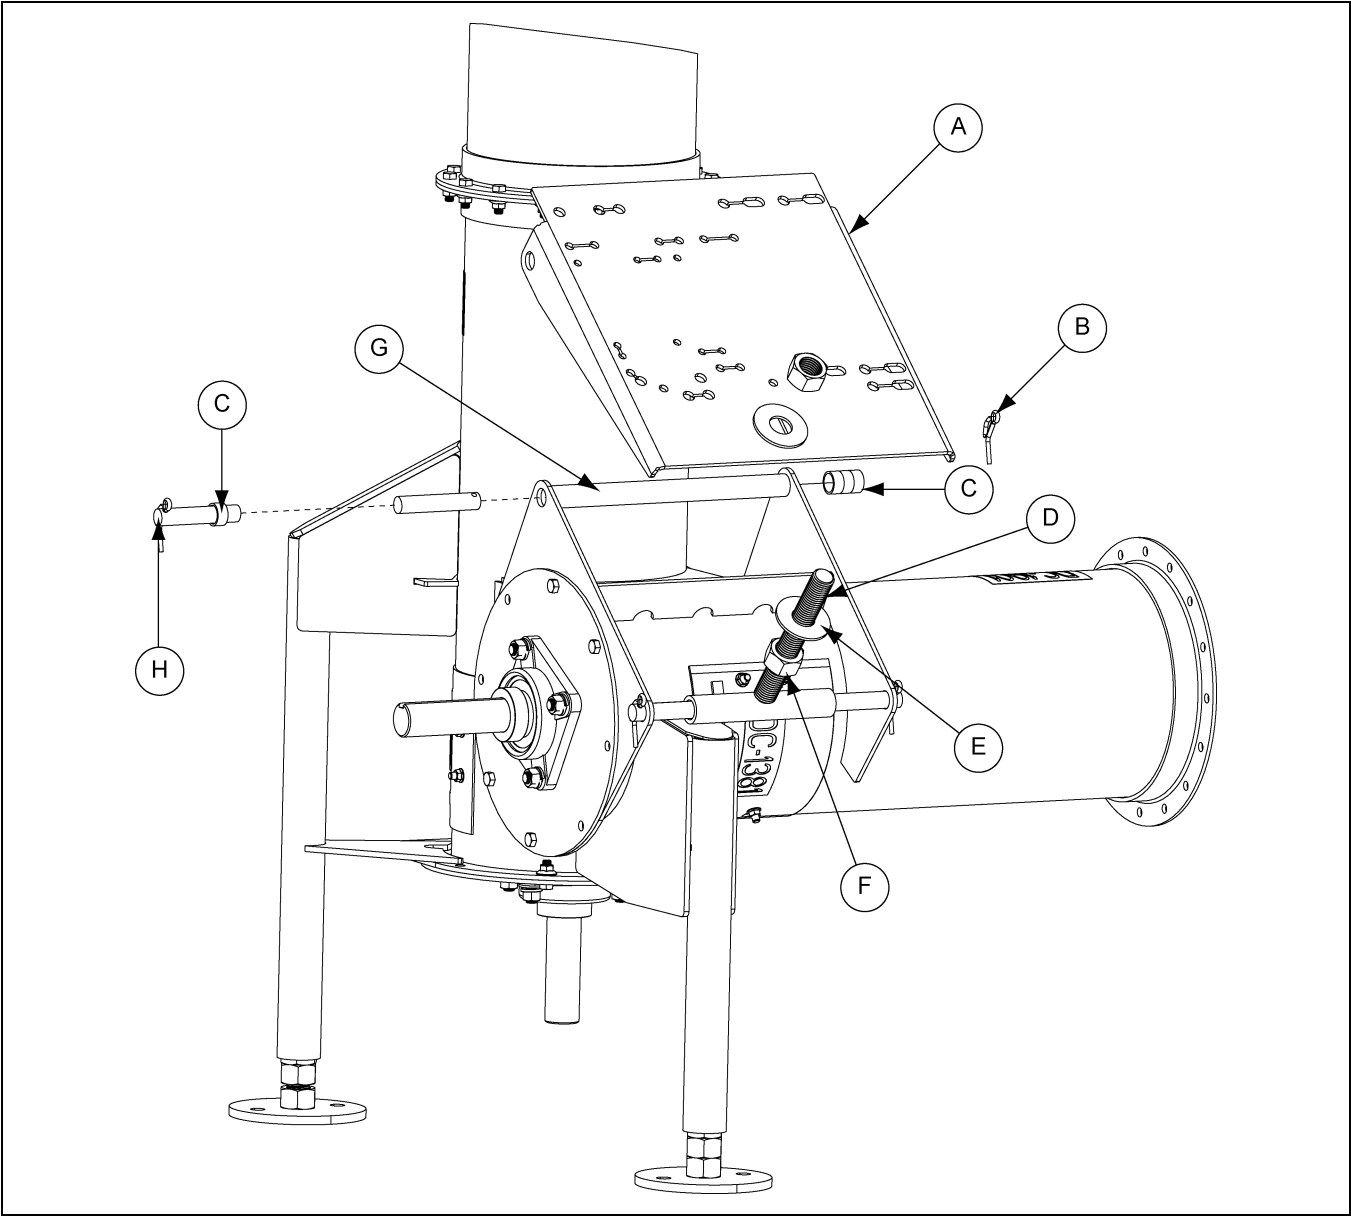
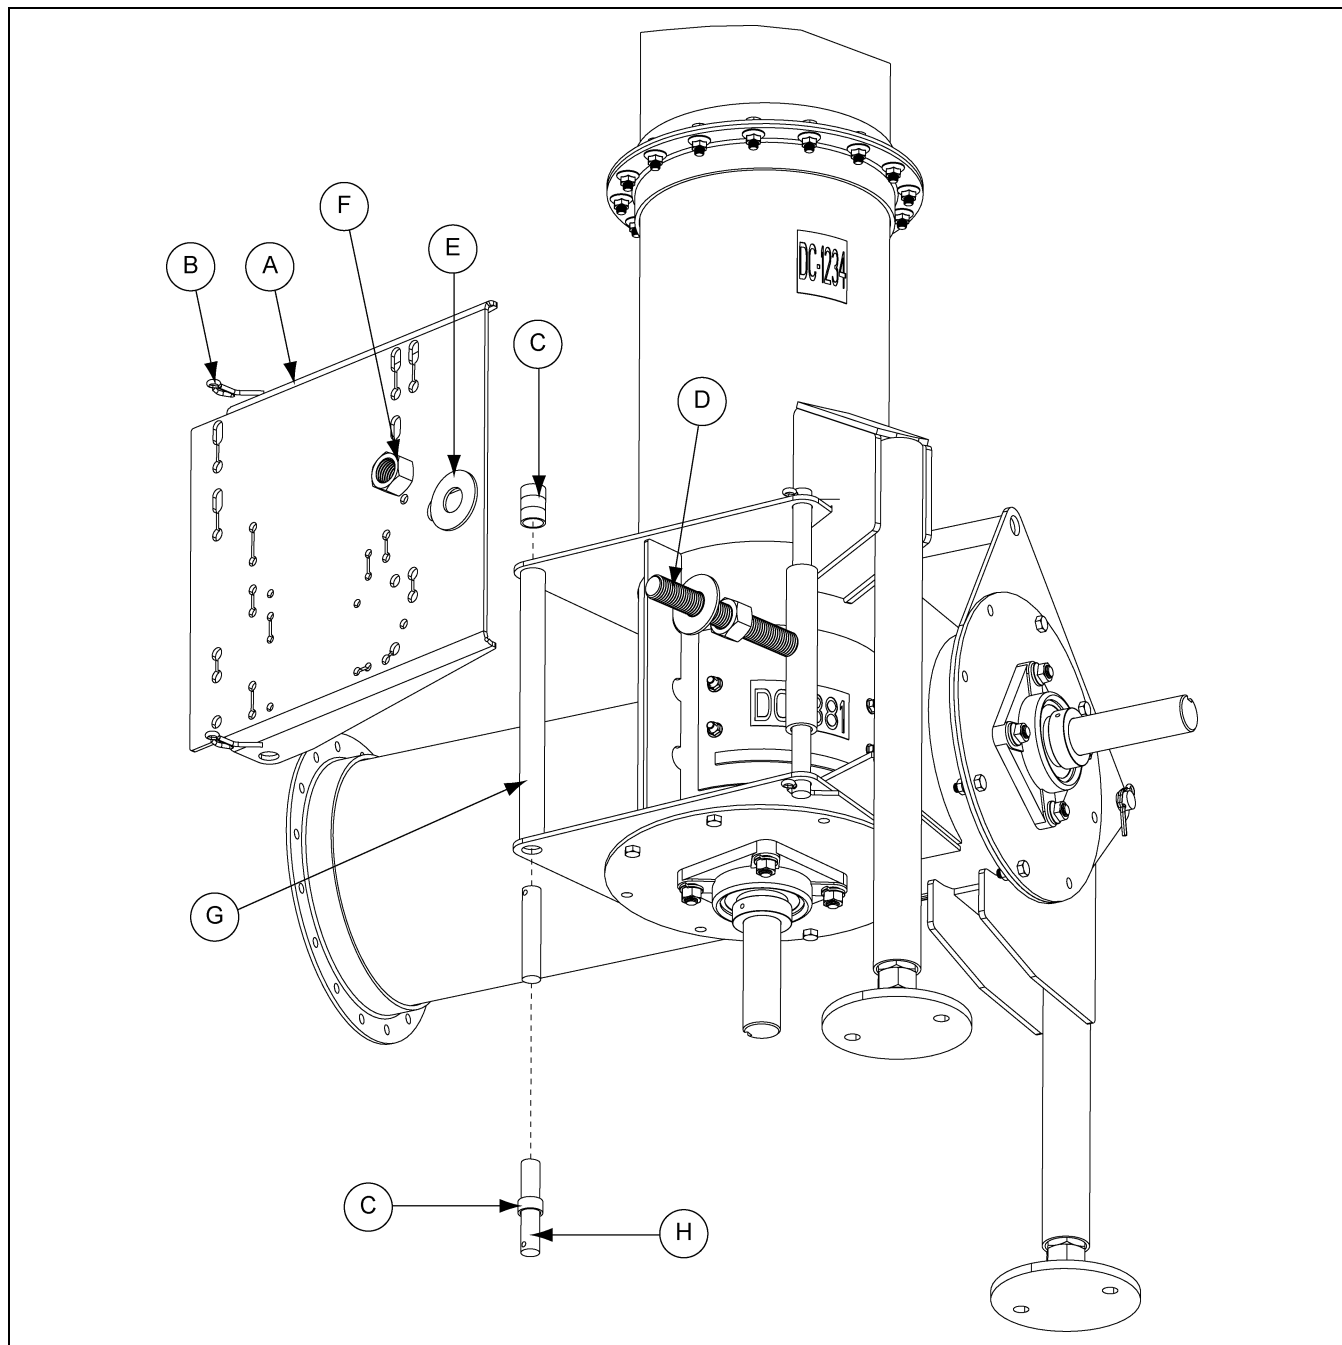

Figure 3H
Figure 3I
- A. Thread one of the *motor mount adjustment nuts* (F) and one of the *motor mount adjustment washers* (E) approximately three-quarters (3/4) of the way down the *motor mount adjuster's threaded rod* (D).
- B. Once the nut and washer are in place, slip the *motor mount plate* (A) over the adjuster and align the pivot holes with the pivot tube (G). (See Figure 3H below and Figure 3I on Page 21.)